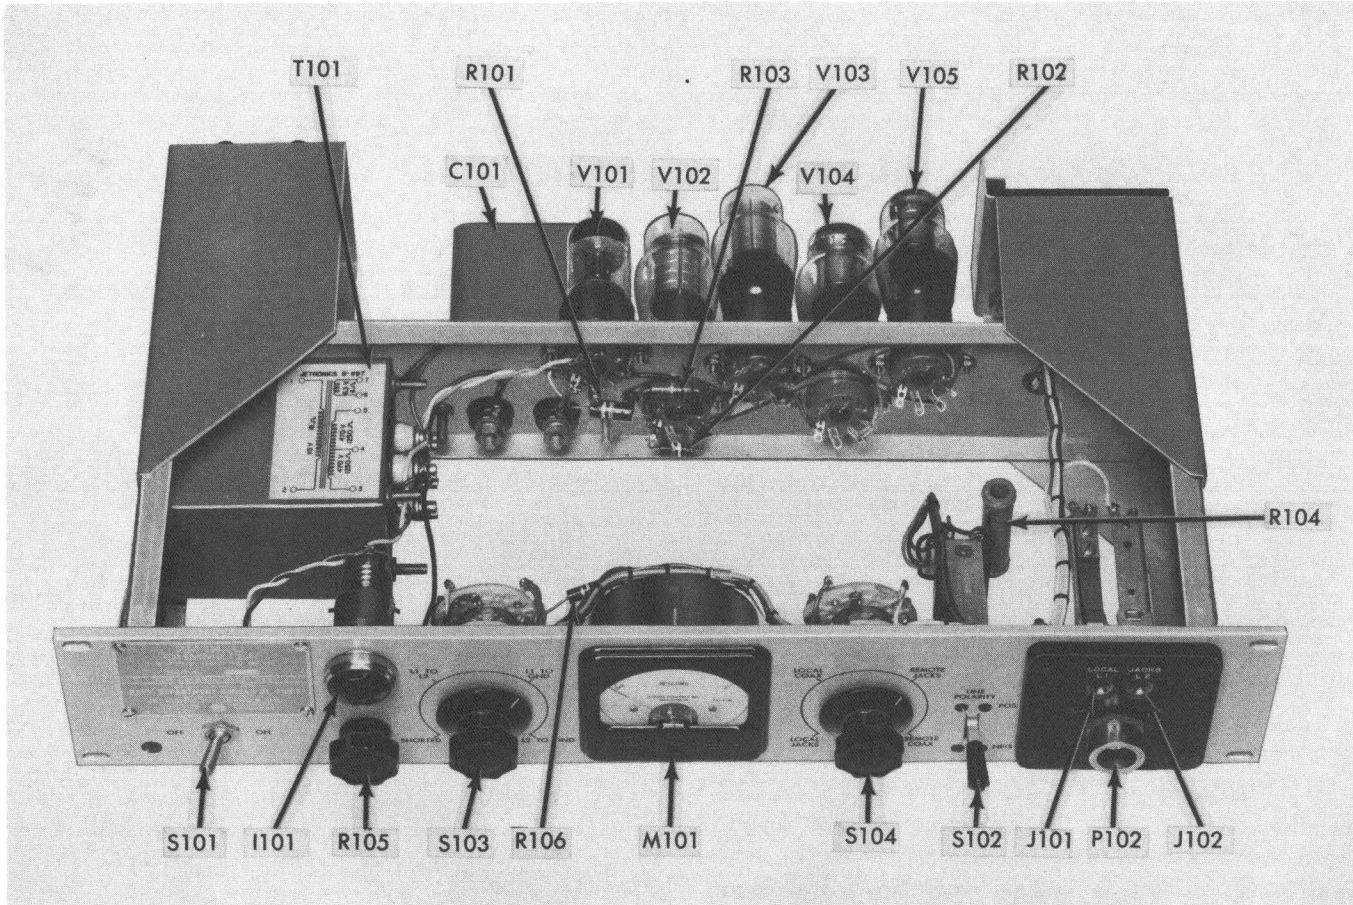

Figure 1-2. Ohmmeter, Model ZM-1B/U Case Removed
Referring to Figure 1-2, SELECTOR SWITCH S103 allows resistance measurements between line L1 and line L2 (center conductor to shield for coax), between L1 and ground (center conductor to ground for coax), between L2 and ground (shield to ground for coax), and presents a short circuited termination for zero adjustment. The LINE POLARITY SWITCH S102 reverses the voltage output of the measuring circuit. At normal position this switch is open and no voltage is applied to the output terminals. Line L1 is positive when switch S102 is moved to POS and L1 is negative
3. METER ZERO.—With the power switched off, the mechanical zero of the METER M101, Figure 1-2, may be set by turning the bakelite zero corrector screw